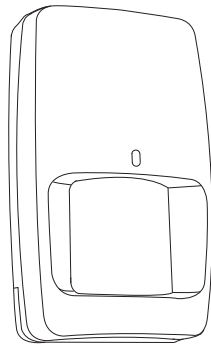

Figure 21. Motion Sensor
**Motion Sensors** Honeywell 5894PI **Motion Sensors** can only be armed Away. **Motion Sensors** have a 30-second entry delay when armed. (Figure 21)